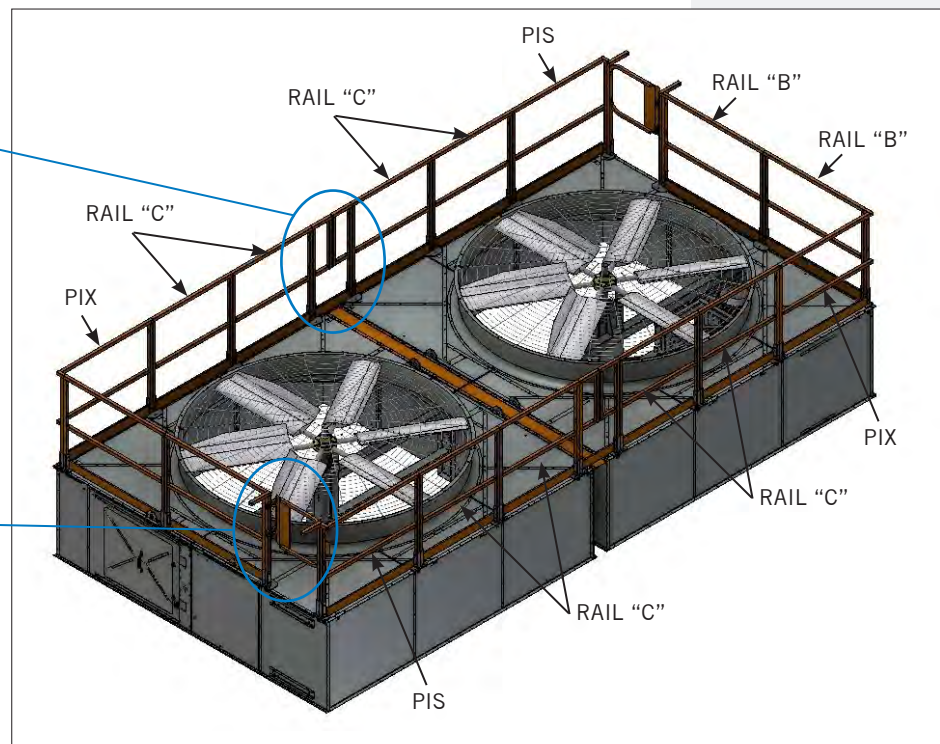
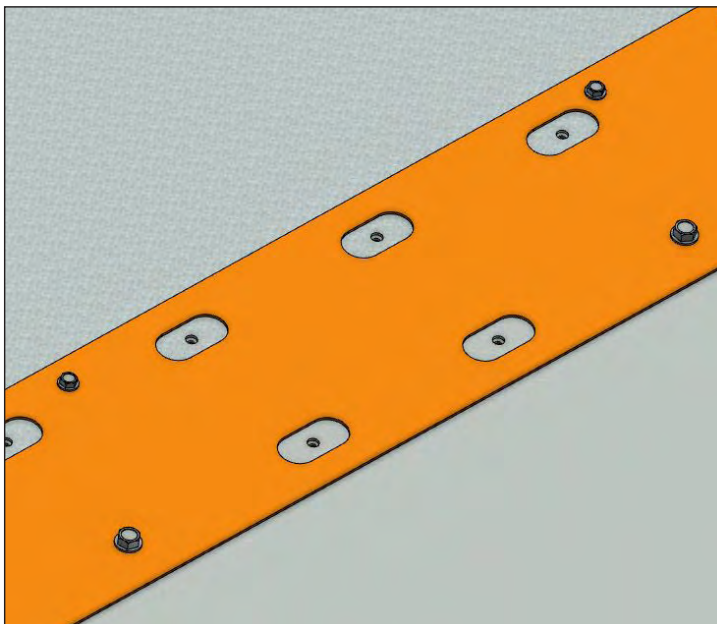

Figure 50. Top Perimeter Guardrails - PFi/PCC-2412
Figure 59. Top Perimeter Guardrail Gap Plate Attachment
3. For multi-cell units, install the gap plates. See **Figures 50 to 55**. Secure plates on one side by re- using the 5/16" self-tapping screws from the fan deck. Secure on the other side using the 1/4" self- drilling screws provided. See **Figure 59**.